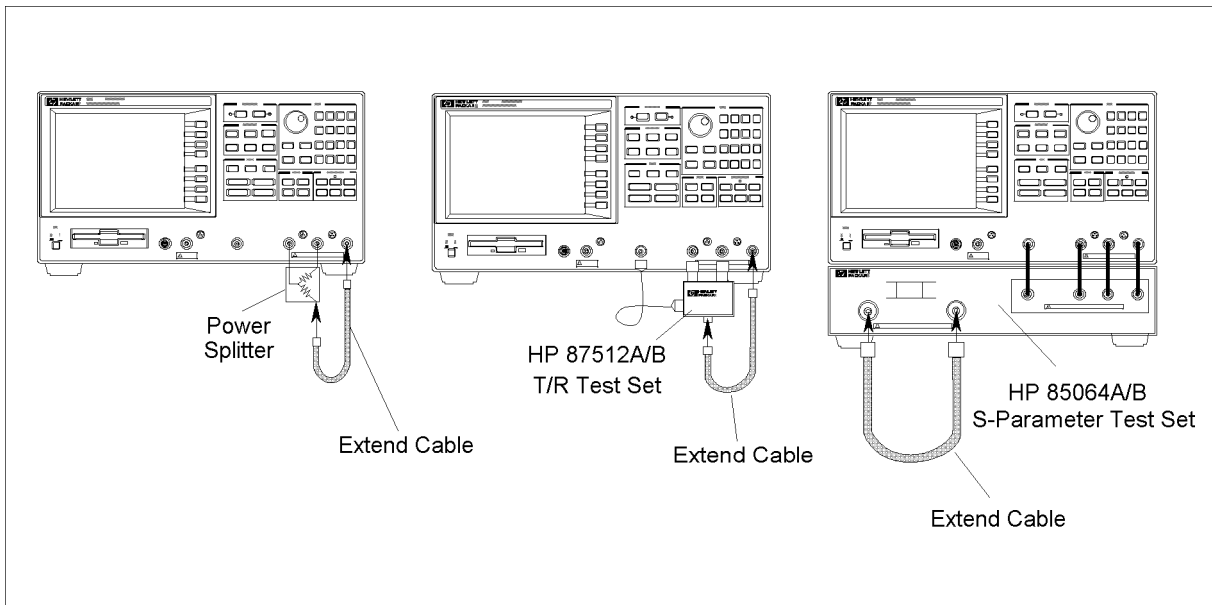

Figure 8-16. Cable Measurement Configuration (Transmission)
1. Connect the cable as shown in Figure 8-16.